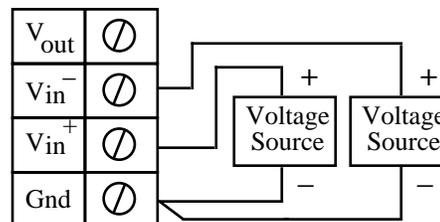

Fig 3.18 - Accelerometer Measurement, Single-Ended Wiring
Accelerometers are set up in either single-ended or differential wiring mode. Figure 3.18 shows a single-ended configuration, yet one can implement differential by wiring as shown in Figure 3.2 and setting the "Wiring" field to differential "Vin+ - Vin-". instruNet calculates acceleration using the equations:
4. Set the Wiring field in the Hardware settings area to either differential "Vin+ - Vin-" (figure 3.2) or single-ended "Vin - Gnd" (figure 3.18), and refer to the steps at the beginning of this chapter for more information on how to set up your sensor.5,10